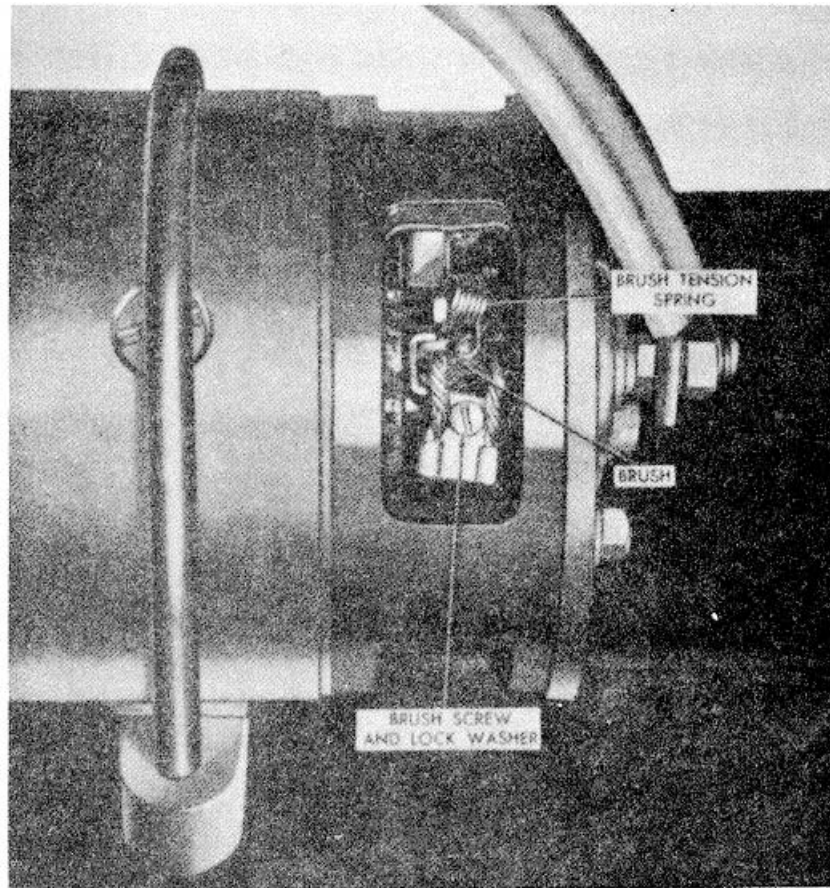

Figure 35. Starting motor brushes exposed.
a. Removal. Remove the cover band screw and nut and slip the cover band from the commutator-end frame to expose the starting motor brushes (fig. 35). Raise the loop of the brush tension spring until a pin or short length of stiff wire can be passed through the loop to support it above the inspection opening. Remove the brush screw and lockwasher and lift the brush from the holder.
b. Installation. Install a new brush (fig. 35) in the brush holder, remove the pin or wire, and allow the loop of the tension